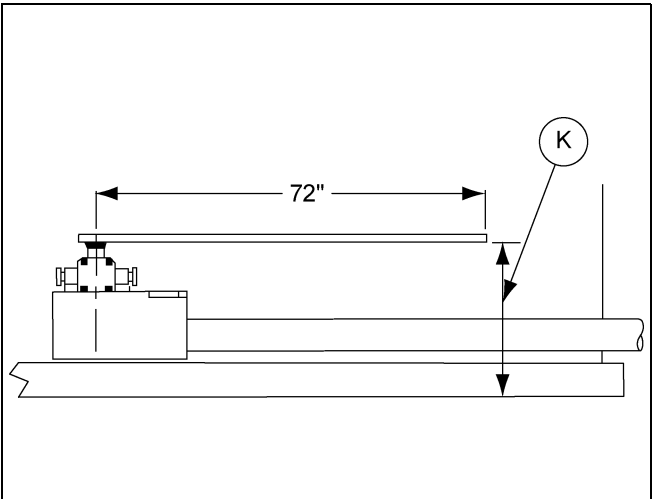
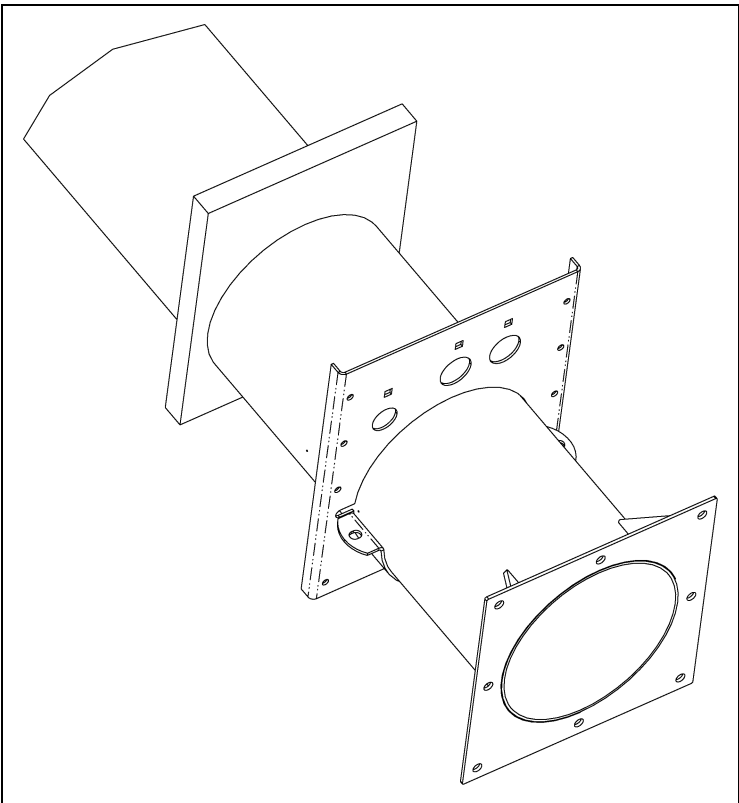

Figure 5H
Figure 5I
**Check to make sure that the gearbox and sump is level. (See Figure 5H on Page 20.)**
10. Slip the face plate and face seal onto the discharge auger tube. Next, insert the auger tube through the hole cut into the bin in Step 4 on Page 16. (See Figure 5H and Figure 5I on Page 20.)